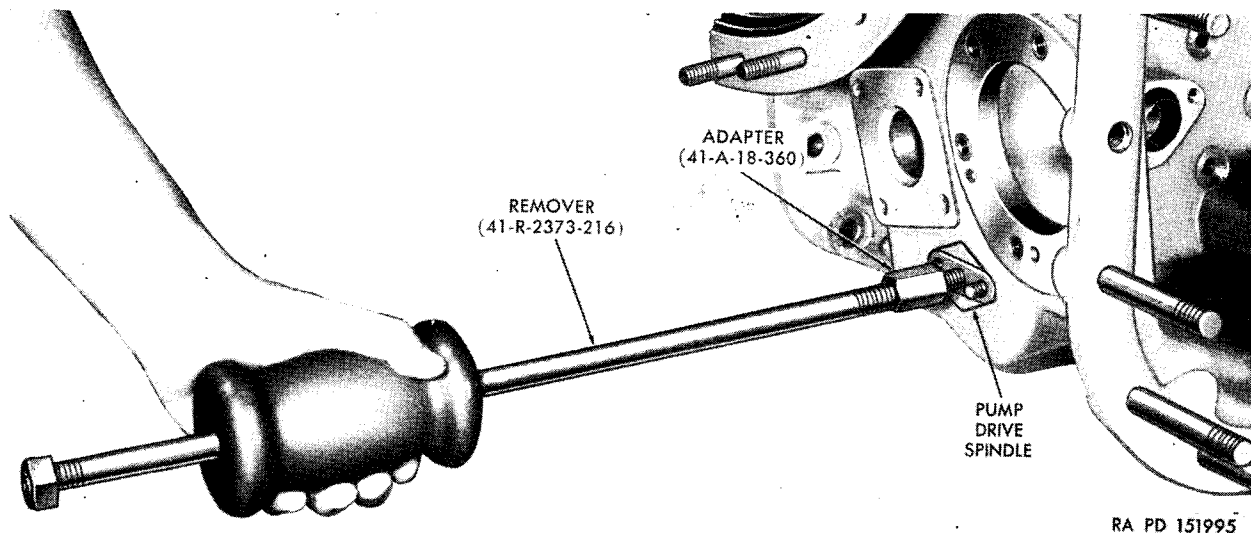

Figure 256. Removing pump-drive-gear and bearing spindle.
- (4) Using remover (41-R-2373-216) and adapter (41-A-18-360), remove the spindle from the pump-drive-gear and bearing assembly (fig. 256).